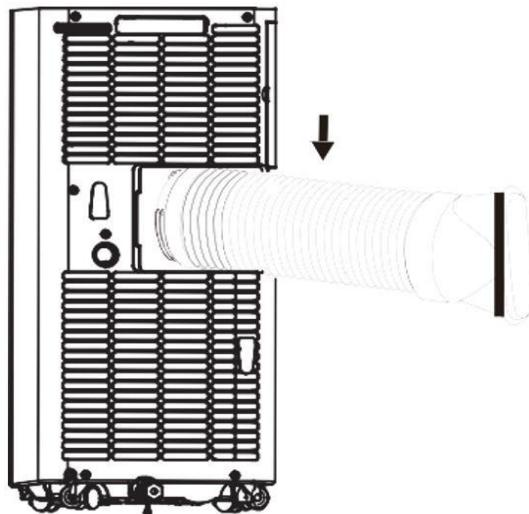

Fig. 1
- Screw the exhaust air hose (with adapter) to the exhaust air outlet at the rear of the appliance (counterclockwise, fig. 1).